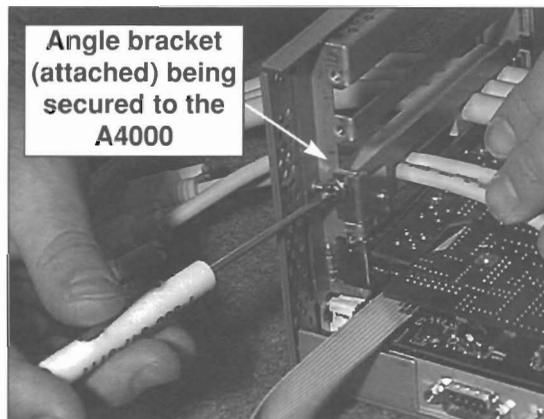

Figure 6.
- 4 (Skip this step if you are **not** using NewTek's SCSI accessory cable.) Now attach the small angled bracket to the molded plastic block (the screw for this is built in to the block). The lip of the bracket should overlap the back ledge of the Amiga (and its hole should line up with a hole there). When the bracket is secure, use the Phillips screwdriver and install the screw. This secures the entire cable assembly to the Amiga. See Figure 6.